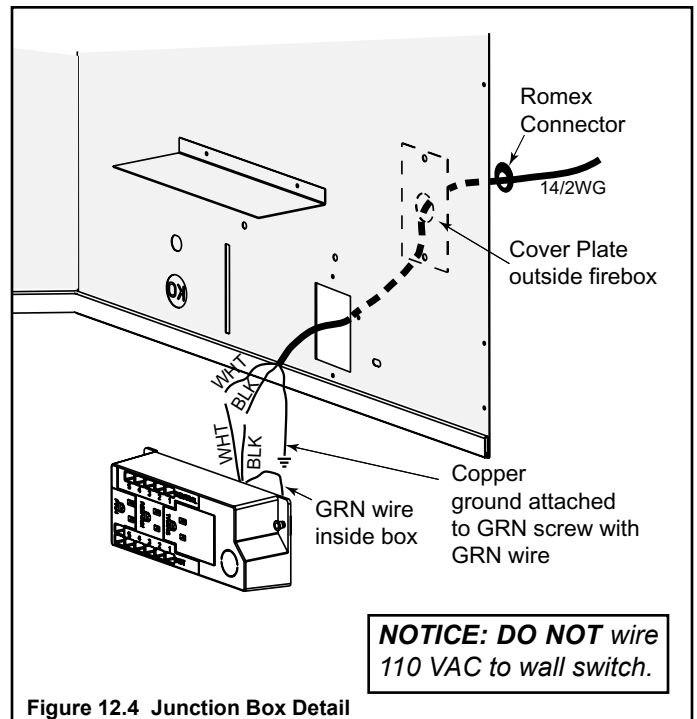

Figure 12.4 Junction Box Detail
- Remove the cover plate located on the outer shell - right side (see Figure 12.4).
- Remove the screw attaching the junction box/receptacle to the outer shell, rotate the junction box inward to disengage it from the outer shell (see Figure 12.4).
- Pull the electrical wires from outside the appliance through this opening into the valve compartment. See Figure 12.4.